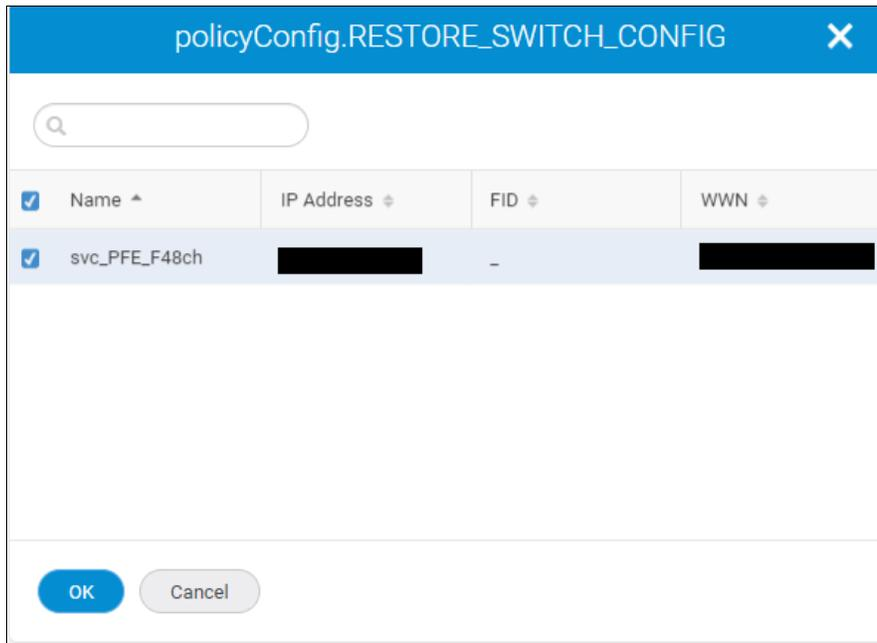

Figure 5-20 Restore
- c. Select the switch and select **OK**, as shown in Figure 5-20.